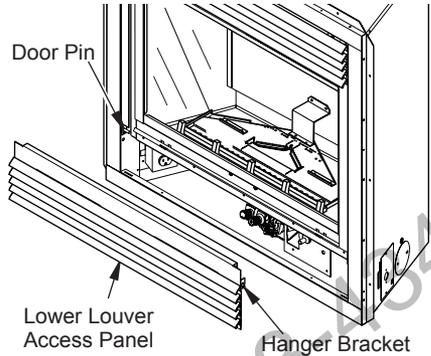

Figure 56 - Removing Lower Louver Access Panel
1. Grasp lower louver panel and pull up until hanger brackets release from door pins (see Figure 56).
1. Remove lower louver panel (see Removing Lower Louver Access Panel and Figure 56, page 30).